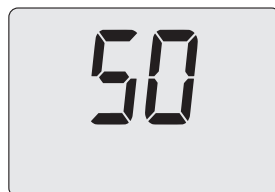

Figure 7.25
- Press 16 (Figure 7.21) to show the value of parameter P01 on the LCD display (Figure 7.25).